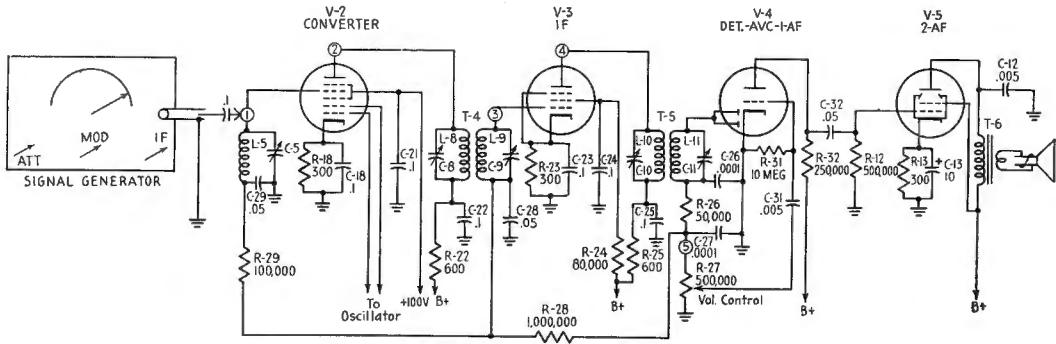

FIG. 13-22.—Signal check for locating trouble in an IF amplifier.
The test oscillator, receiver, and output meter are connected as shown in Fig. 13-22. The signal generator is adjusted for modulated output on the IF band. The receiver is adjusted for maximum volume, minimum bass response, and maximum selectivity (if there is such a control); the RF portion is made inoperative by shorting the oscillator section of the gang tuning condenser. Let us assume normal operation of the audio amplifier, as proved by a normal response when an audio test signal is applied to point ⑤, the input of the AF amplifier, and no response or weak response when a modulated signal at the intermediate frequency is applied to point ①, the converter signal grid.
STEP 1. The test lead from the signal generator is moved to point ②, the converter plate.
STEP 2. The test lead from the signal generator is moved to point ③, the IF grid.